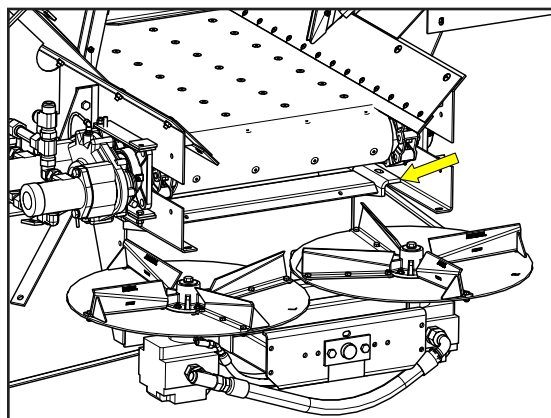

Figure 1
1. Figure 1 - Begin by ensuring that the Spinner Assembly is mounted correctly. The Spinner Frame should be sitting on top of/inside the Sill flanges, NOT hanging below.